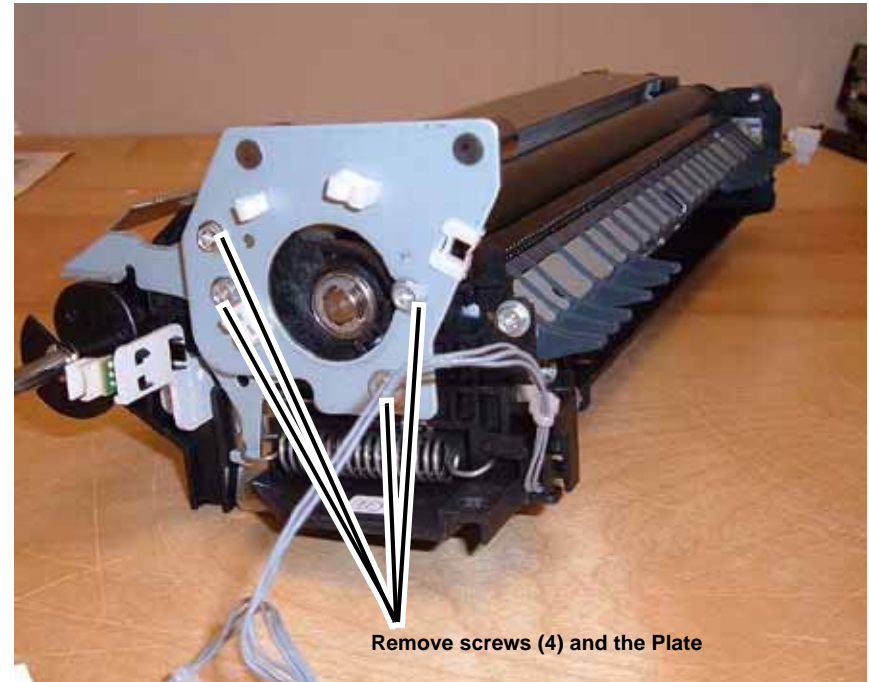

Figure 2 Removing the Plate
3. Remove the Plate (Figure 2).